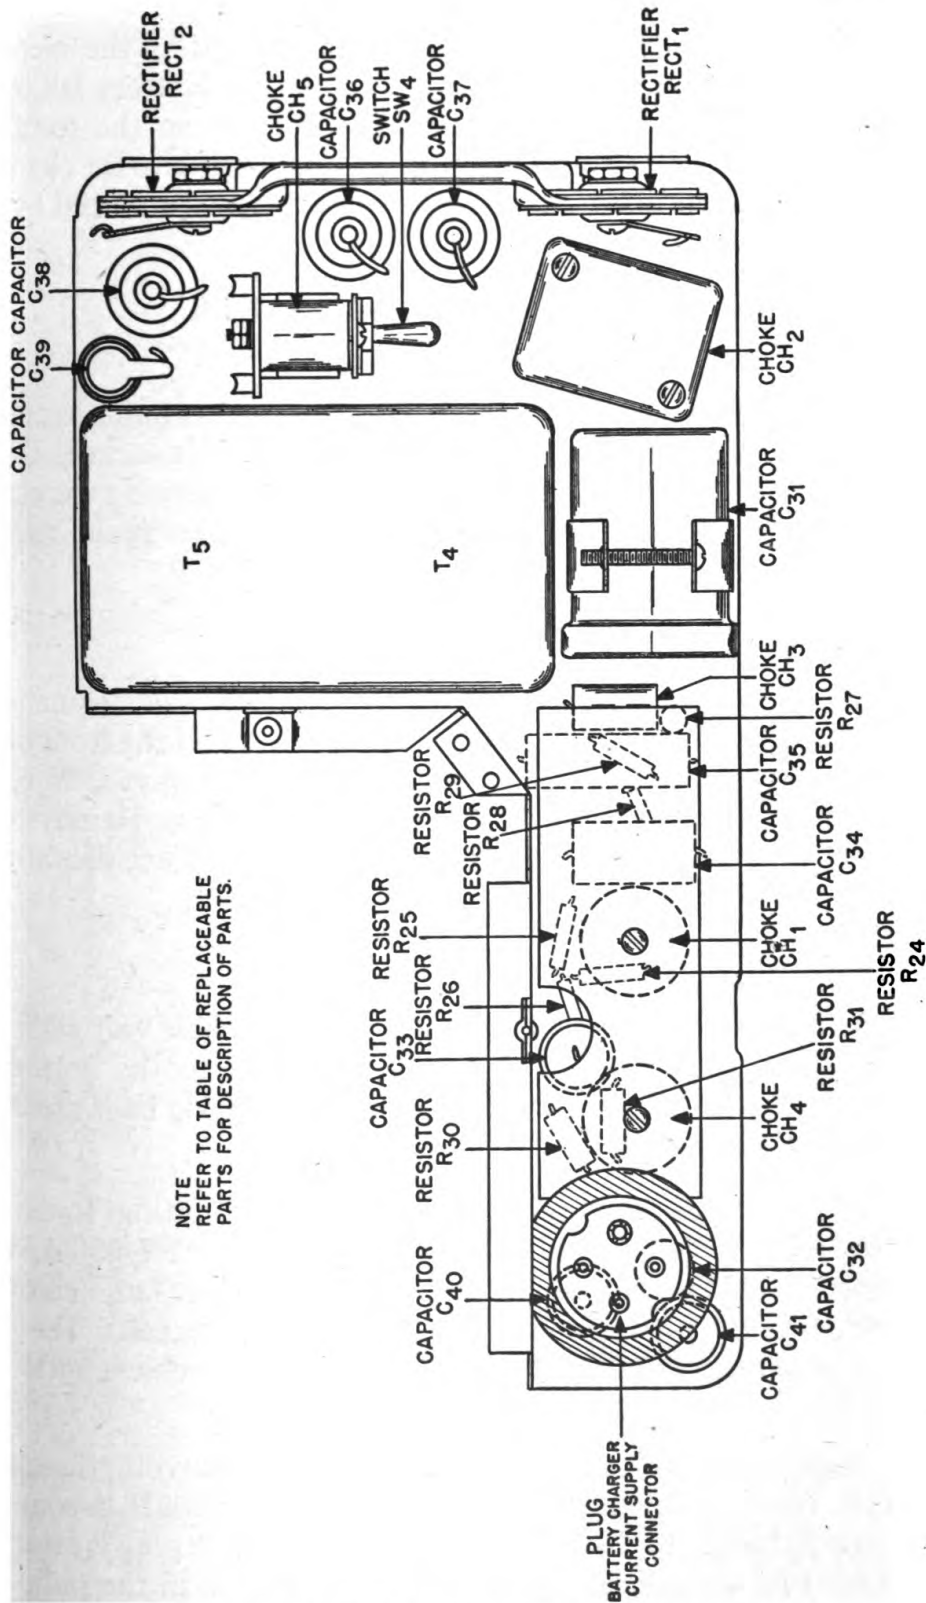

FIGURE 16—RADIO RECEIVER BC-728-A, POWER SUPPLY—BOTTOM VIEW—SHOWING MAJOR PARTS
b. *Battery Charging Circuit.*—A circuit is employed in the power supply for the purpose of charging Battery BB-54-A from an external vehicular battery of 6 or 12 volts. Refer to schematic diagram, Figure 16, for plug connections used when charging Battery BB-54-A. Switch (SW₄) must be in the proper position for the particular voltage used in charging. This switch is actuated by the plug on charging Cord CD-618-A. The voltage used for charging is applied to the primary winding of the charging transformer (T₅). Vibrator (VB₂) in the primary circuit of the transformer alternately applies voltage first to one side and then to the other of the primary winding, producing an a-c voltage in the secondary winding of the same trans-